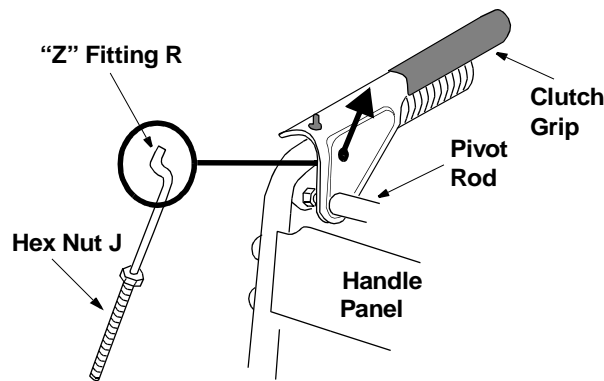

Figure 8
- Thread hex nuts (J) onto the “Z” fittings (R). Insert “Z” fitting into hole in clutch grips. See Figure 8.